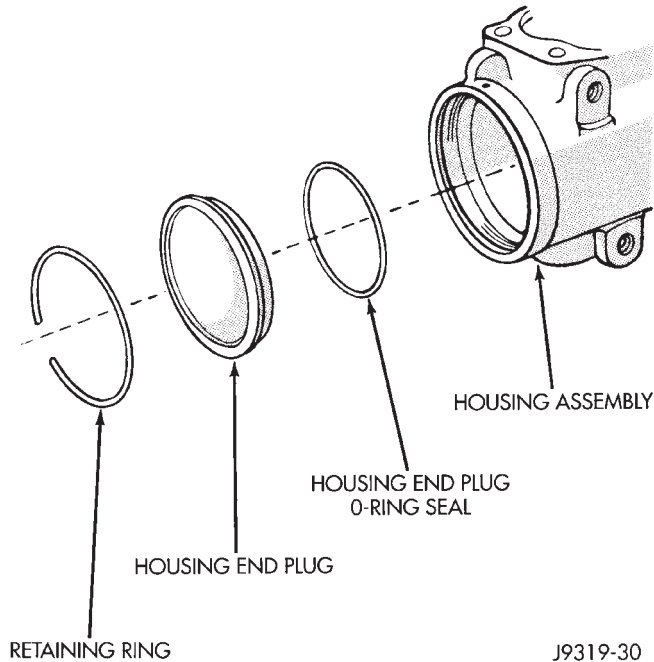

Fig. 4 End Plug Components
(3) Remove O-ring from the housing (Fig. 4).